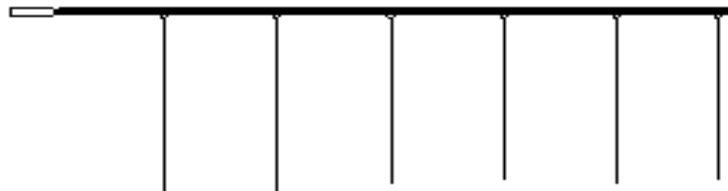

FIGURE 1 Bus with width 6.
If you need to rotate your bus taps, you can use “Ctrl-R” or the Rotate icon that can be found in the toolbar. Make the tap side (left side as shown) of each bus tap attach to the bus line. On the other side of each tap, extend the wire. These wires are related to the bits of the bus and will be connected to the logic gates. You have to name each of the wires after the bus tap, for example, OP(5), OP(4), OP(3), OP(2), OP(1) and OP(0), to represent the corresponding bit. To do so, go Add→Net Names or click the Add Net Names icon in the toolbar. In the same toolbar, select Name Branch and type in OP(5) in the next empty block. Move the cursor to the wire which represents OP(5) and click to place the name of the wire. Similarly name branches OP(4) to OP(0). The finished bus should look like Figure 1.